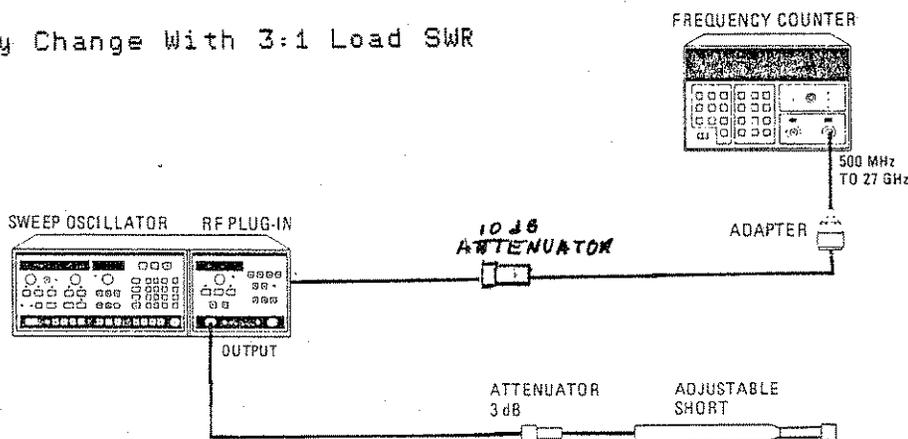

Figure 4-6. Frequency Change with 3:1 Load SWR Test Setup
12. Connect equipment as shown in Figure 4-6. Press the 8350A [INSTR PRESET], [CW] [1] [GHz], then [POWER LEVEL] [1] [0] [dBm].